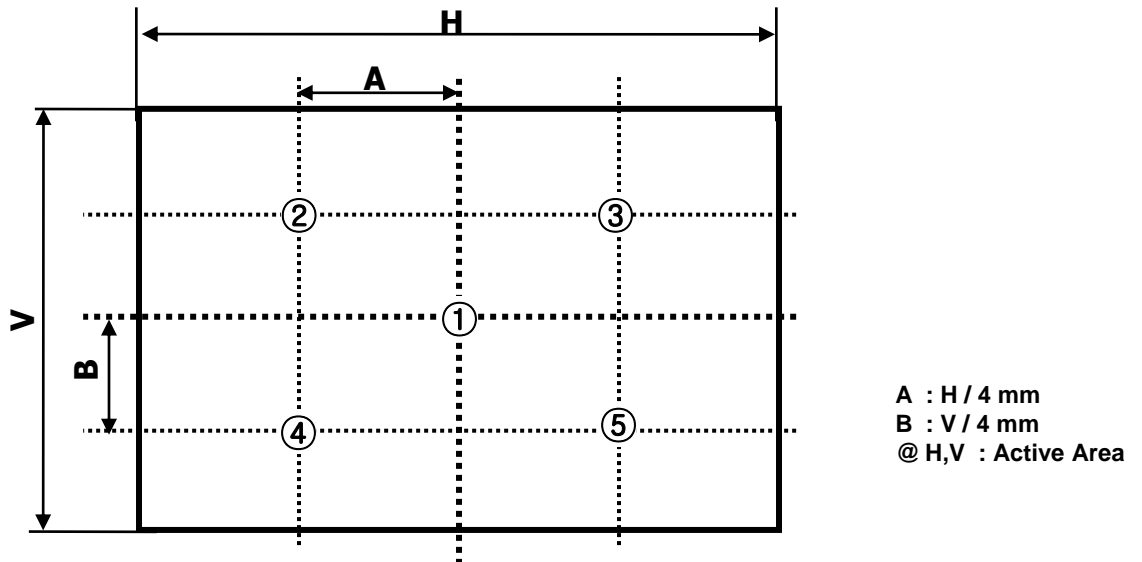

FIG. 2 5 Points for Luminance Measure
2. Surface luminance is determined after the unit has been 'ON' and 1 Hour after lighting the backlight in a dark environment at  $25 \pm 2^{\circ}\text{C}$ . Surface luminance is the luminance value at center 1-point across the LCD surface 50cm from the surface with all pixels displaying white. For more information see the FIG. 2.
For more information, see the FIG. 2.